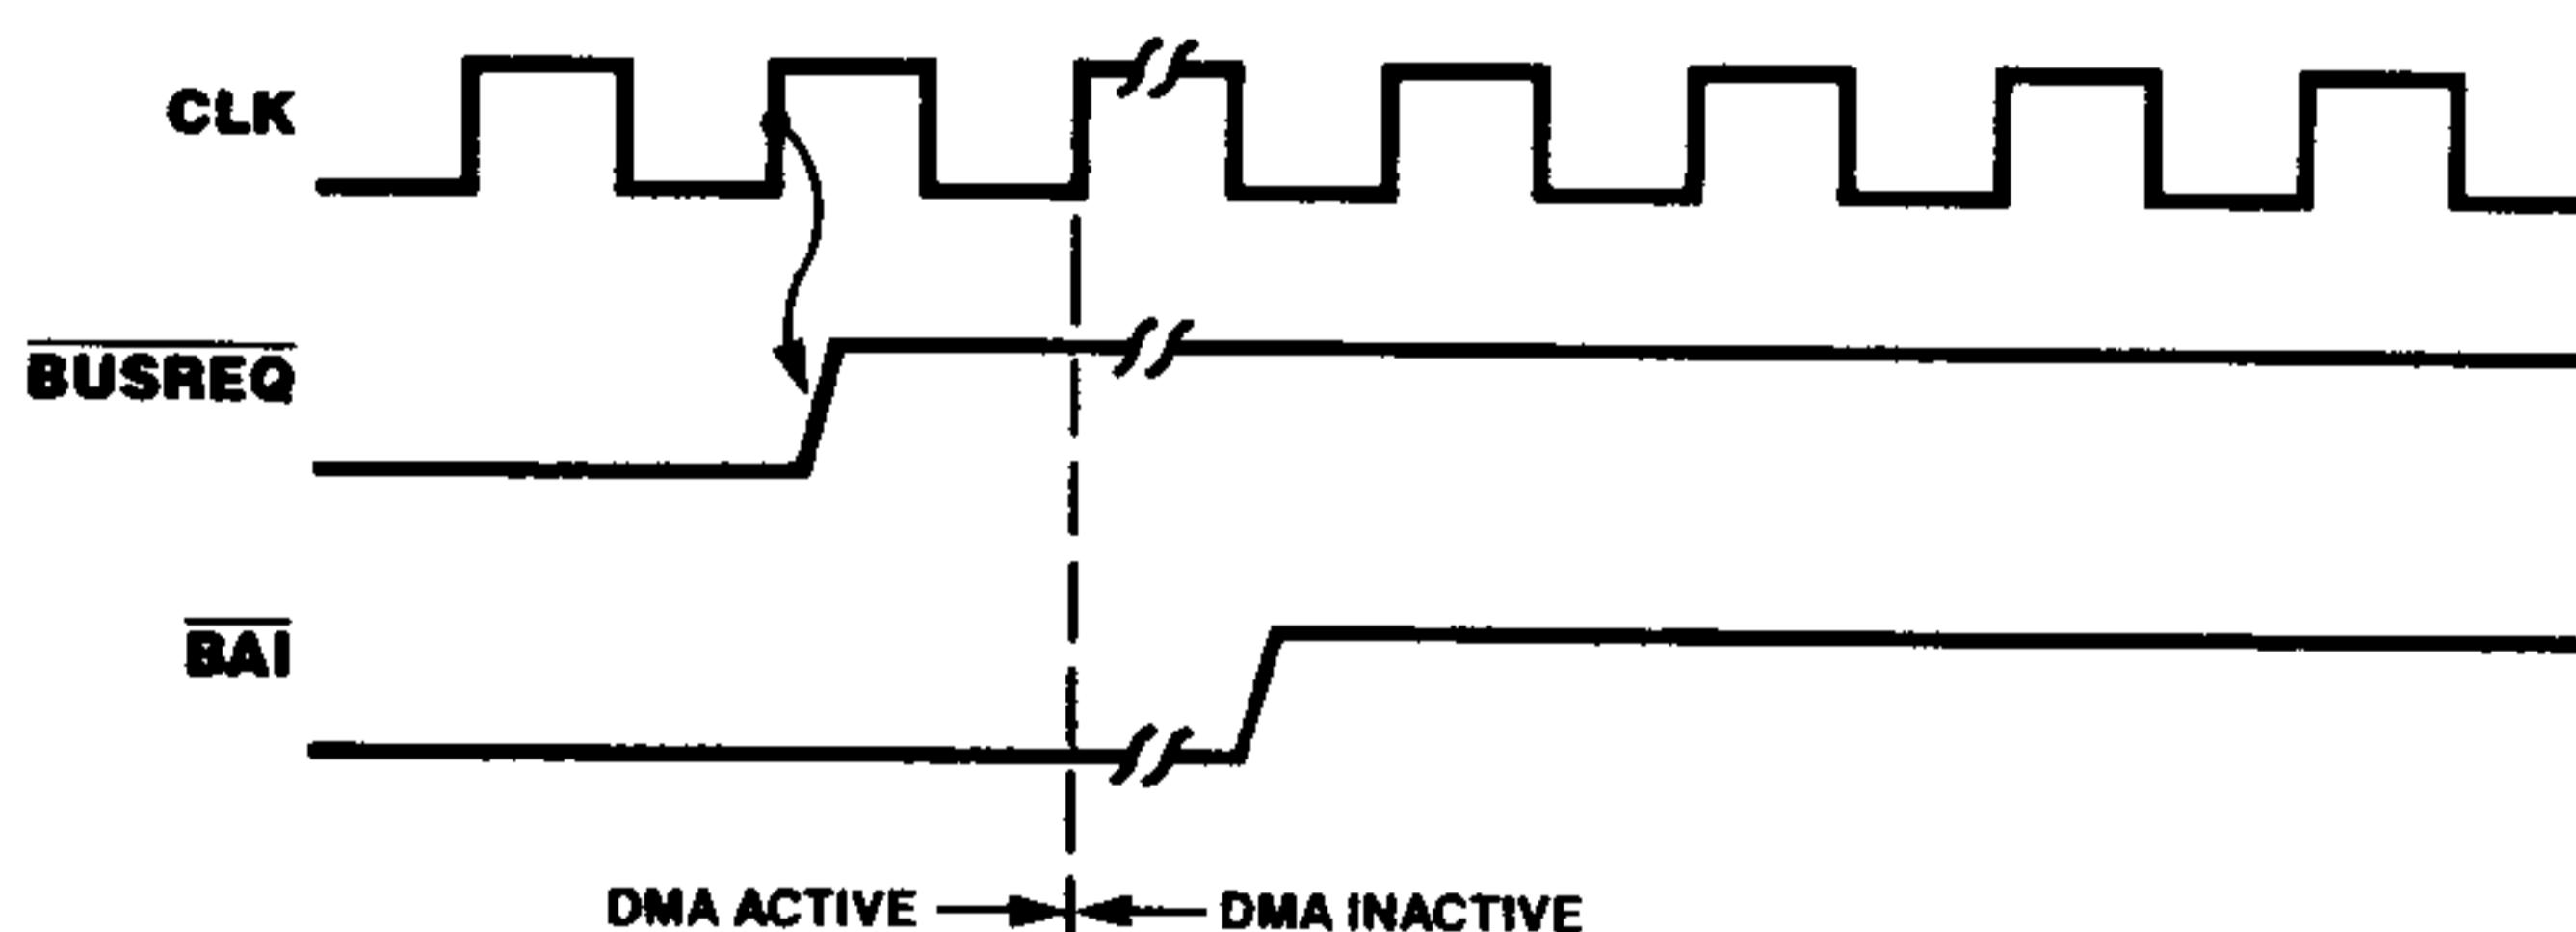

Figure 16. Bus Release (Byte-at-a-Time Mode)
**Bus Release Byte-at-a-Time.** In Byte-at-a-Time mode, BUSREQ is brought High on the rising edge of CLK prior to the end of each read cycle (search-only) or write cycle (transfer and transfer/search) as illustrated in Figure 16. This is done regardless of the state of RDY. There is no possibility of confusion when a Z80 CPU is used since the CPU cannot